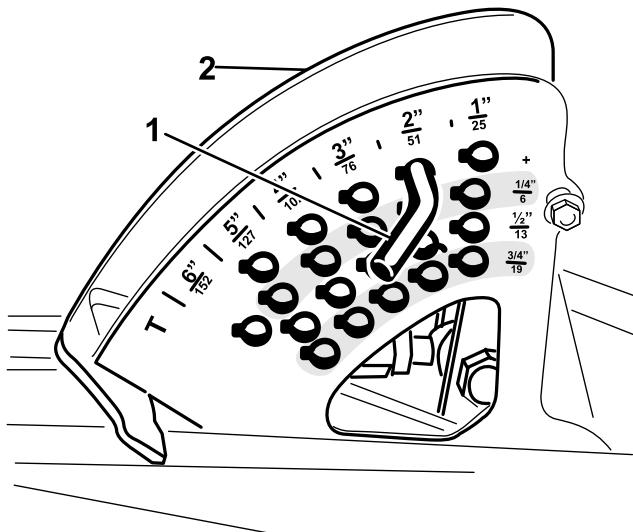

Figure 3
3. Note the location of the HOC pin in the HOC bracket for assembly purposes (Figure 3). Remove the HOC pin from the HOC bracket.
- Install the HOC pin into the HOC bracket at the desired height of cut (Figure 3).